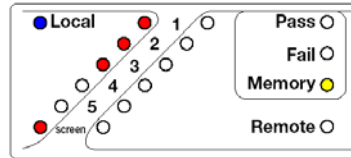

Fig 13. Ready to store cable in memory.
1. Once again at the 'Local' screen LED on position press and hold until the MEMORY LED lights (Fig13).